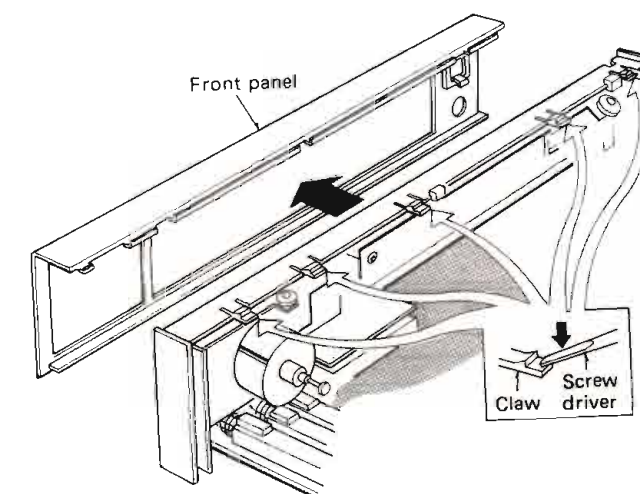

Fig. 3
3. The claws projected (at 5 portions) from the front panel are engaged with the front sub-panel. Disengage the claws from by screwdriver or the like to remove the front sub-panel. (See Fig. 3)